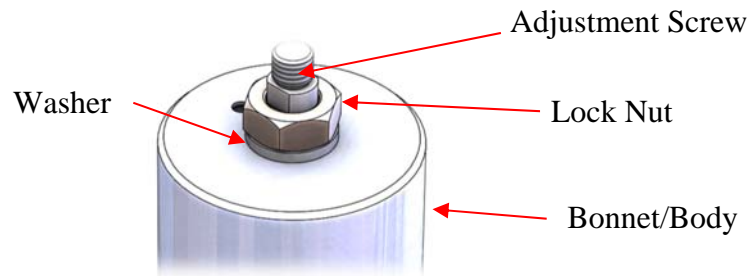

Figure 24: Top Entry Upper Bonnet
2. Loosen the lock nut from the adjustment screw. See Figure 24.